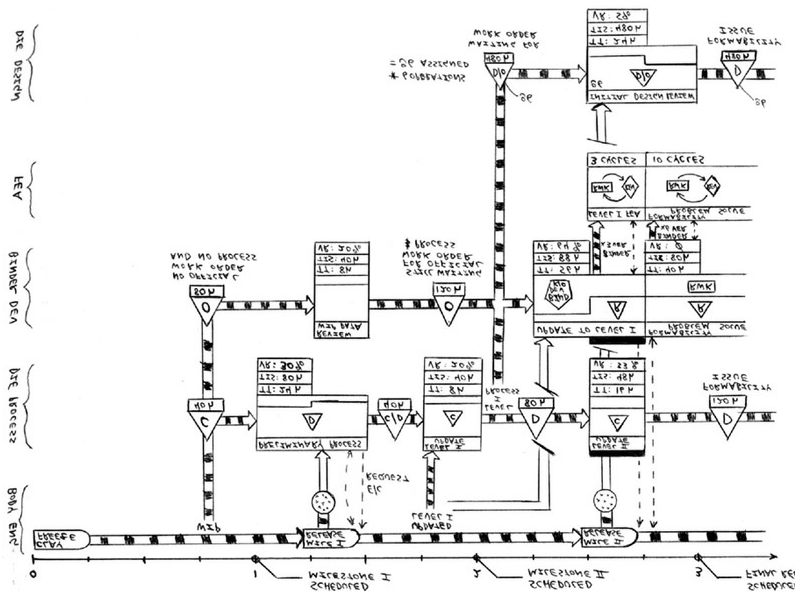

Figure 21-3. "Current state" value stream map of product-development process (Source: Morgan, 2002)
Even though there are no physical transformations for many service and business operations, one can easily modify this methodology by making more of an "information flow diagram." Morgan (2002) developed a version that effectively maps product development value streams (see Figure 21-3). The mapping was modified to capture such critical things as decision points, feedback loops, and project review events (*hansei* events). The events are placed on a project timeline, showing when events take place. Since different organizational functions come into play at different times, the processes are arranged by the function responsible for them, for example "body engineering" and "die-processing" in the diagram. Like value stream mapping for manufacturing, boxes represent processes and triangles represent inventory. Inventory in this case is information waiting to be processed. The hours of queue times are shown in boxes beneath the "inventory" triangles between processes. The processes have some key indicators like the task time (TT), time in system (TIS), and the value ratio of value added to total lead time (VR). Many wastes are represented on the value stream map. In addition to the queue times, we see engineering changes (e/c), rework, and time resolving various issues that result from not doing things right the first time. The cross-hatched arrows connecting processes depict that everything is "pushed" onto the next process in batches.